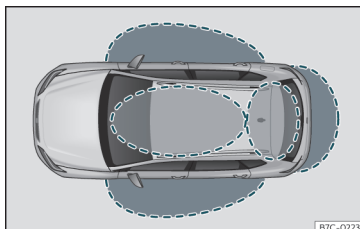
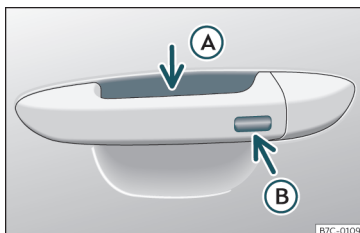

Fig. 76 Keyless Access: proximity zones.
Fig. 77 Door handle: sensor surfaces
in the detection area where you are attempting to access the vehicle»» Fig. 76 and to touch one of the sensor surfaces on the door handles»» Fig. 77 or operate the *soft-touch*/handle on the rear lid
If a valid key is in the proximity of the car, »» Fig. 76 the Keyless Access locking and starting system gives the key entry as soon as one of the sensor surfaces on the door handles is touched or the *softtouch*/handle on the rear lid is operated.
- Grip one of the front door handles. When you do this, you touch the sensor surface >>> Fig. 77 (A) (arrow) of the handle and the vehicle unlocks.
- Touch (*once*) the locking sensor surface >>> Fig. 77 (B) (arrow) on one of the front door handles. The door that is used must be closed.
• Touch (*once*) the sensor surface >>> Fig. 77 (B) (arrow) on one of the front door handles. The vehicle locks with the "Safe" security system >>> page 98. The door that is used must be closed.
• Touch (*twice*) the sensor surface >>> Fig. 77 (B) (arrow) of one of the front door handles to lock the vehicle without activating the "Safelock" security system >>> page 98.
When the vehicle is locked, the rear lid automatically unlocks on opening if there is a valid vehicle key in the proximity zone >>> Fig. 76.
- Push the central locking button  on the remote control and touch the locking sensor surface of the driver door handle >>> **Fig. 77**  within the following 5 seconds. Do not grasp the door handle; otherwise the vehicle will not unlock. Deactivation is also
To close all the electric windows and the sunroof using the **comfort function**, keep a finger for a few seconds on the locking sensor surface >>> **Fig. 77**  (arrow) of the door handle until the windows and roof have closed.
The sensor surfaces on the door handles could engage if hit with a water jet or high pressure steam if there is a valid vehicle key in the proximity. If at least one of the electric windows is open and the sensor surface >>> **Fig. 77**  (arrow) on one of the handles is
- **OR:** touch the sensor surface on the outside of the door handle *twice*>>> Fig. 77